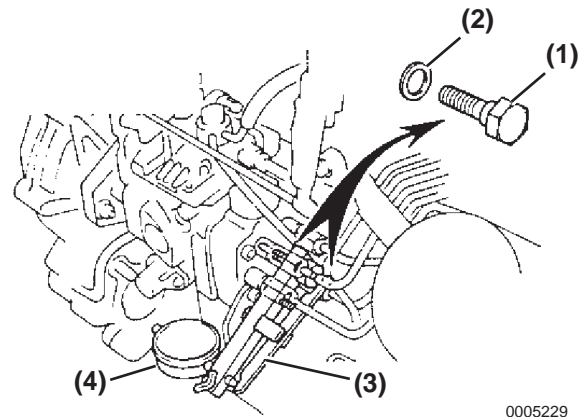

Figure 5-228
4. Remove the plug bolt (Figure 5-228, (1)) and gasket (Figure 5-228, (2)) from the distribution head plug of the fuel injection pump.
5. Install the plunger stroke measuring tool (Figure 5-228, (3)) and dial indicator (Figure 5-228, (4)) into the plug bolt hole of the distribution head plug.